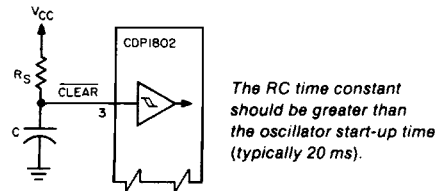

FIGURE 13. RESET DIAGRAM
Registers I, N, Q are reset, IE is set and 0's ( $V_{SS}$ ) are placed on the data bus. TPA and TPB are suppressed while reset is held and the CPU is placed in S1. The first machine cycle after termination of reset is an initialization cycle which requires 9 clock pulses. During this cycle the CPU remains in S1 and register X, P, and R(0) are reset. Interrupt and DMA servicing are suppressed during the initialization cycle. The next cycle is an S0, S1, or an S2 but never an S3. With the use of a 71 instruction followed by 00 at memory locations 0000 and 0001, this feature may be used to reset IE, so as to preclude interrupts until ready for them. Powerup reset can be realized by connecting an RC network directly to the CLEAR pin, since it has a Schmitt triggered input, see Figure 13.